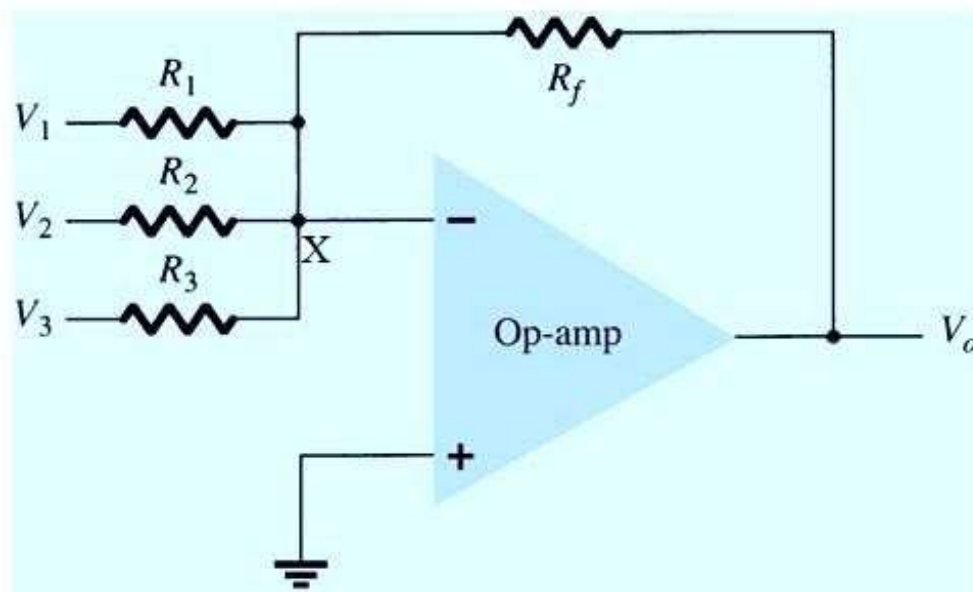

Fig.11.2 Scalar amplifier in inverting mode
- Connect the circuit as shown in fig.11.2 of scalar or weighted amplifier in inverting mode.